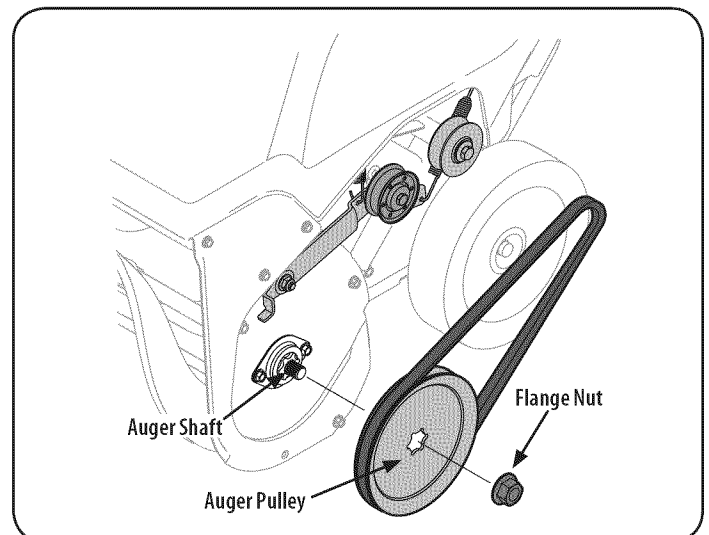

Figure 20
5. Remove the flange nut that secures the auger pulley to the auger shaft. See Figure 20.